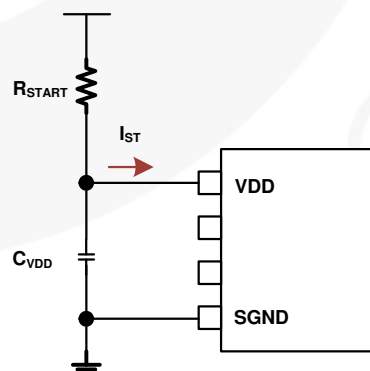

Figure 35. Equivalent Circuit During Startup
Figure 35 shows the equivalent circuit for estimating  $t_{start}$ . From the circuit analysis,  $V_{DD}$  variation versus time is given by:
4. Refer to the Design Guide startup circuit in Figure 35. Due to reducing power loss on the startup resistor (R1) for high-efficiency systems, it is possible to use a higher resistor value than recommended. In this case, the IC doesn't reliably keep SD (shutdown) state for protection. Carefully select the startup resistor (R1) or use the recommended value (470k) to sufficiently supply shutdown current ( $I_{SD}$ ) and startup current ( $I_{ST}$ ).